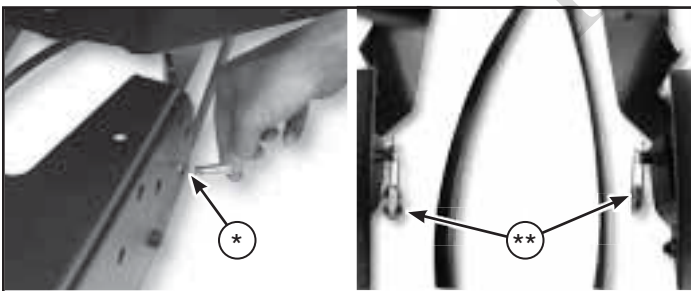

Figure 9
3. Align the hitch assembly mounting arms with the snowthrower mounting tabs, insert mounting pins (*, Figure 9) and secure with safety clips (**).